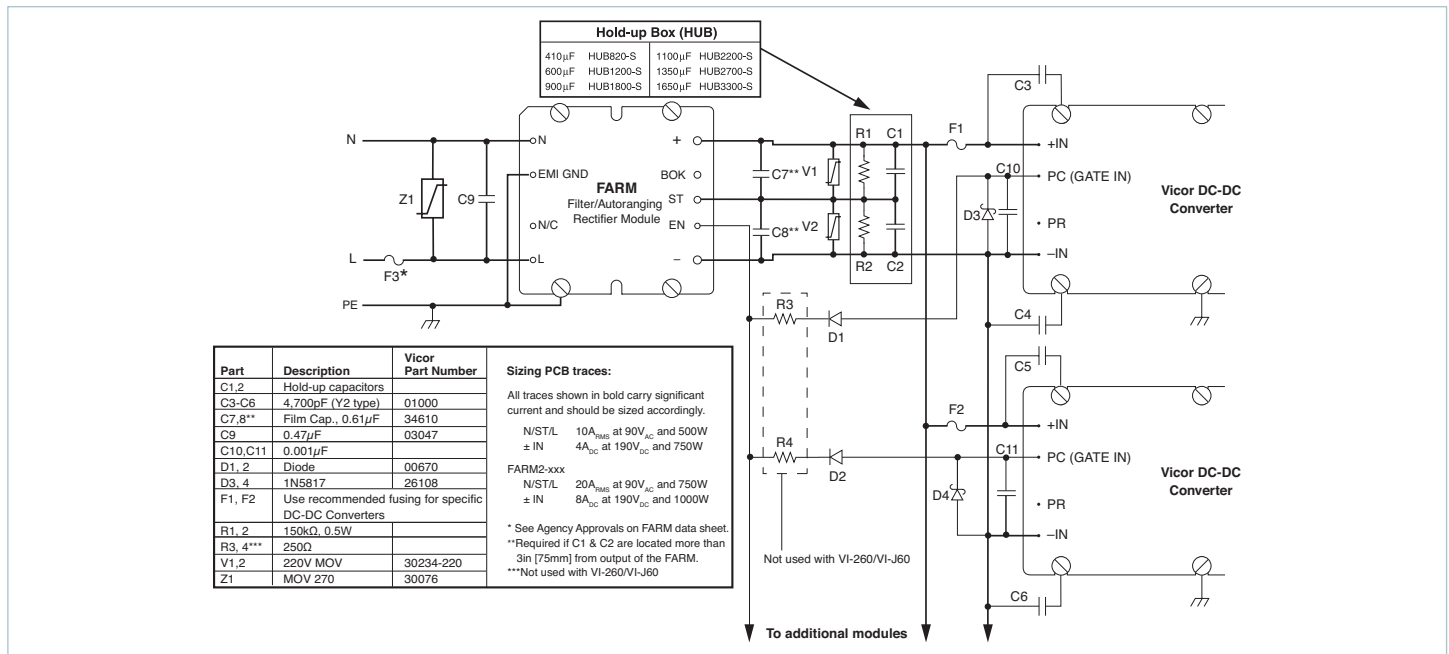

Figure 8.3 — Offline power supply configuration
**Strap (ST) Pin:** In addition to input and output power pin connections, it is necessary to connect the strap pin to the center junction of the series hold-up capacitors (C1, C2, Figure 8.3) for proper (autoranging) operation. Metal-oxide varistors, V1 and V2 provide capacitor protection. The bleeder resistors (R1, R2, Figure 8.3) discharge the hold-up capacitors when power is switched off. Capacitors C7 and C8 are recommended if the hold-up capacitors are located more than 3in [75mm] from the FARM output pins.
It should be noted that the series combination ( $C_1, C_2$ , Figure 8.3) requires each capacitor to be twice the calculated value, but the required voltage rating of each capacitor is reduced to 200V. Allowable ripple voltage on the bus (or ripple current in the capacitors) may define the capacitance requirement. Consideration should be given to converter ripple rejection and resulting output ripple voltage.